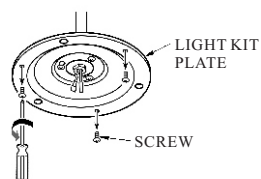

FIG. 14
3. Remove 3 screws on light kit plate. (see Fig. 14)